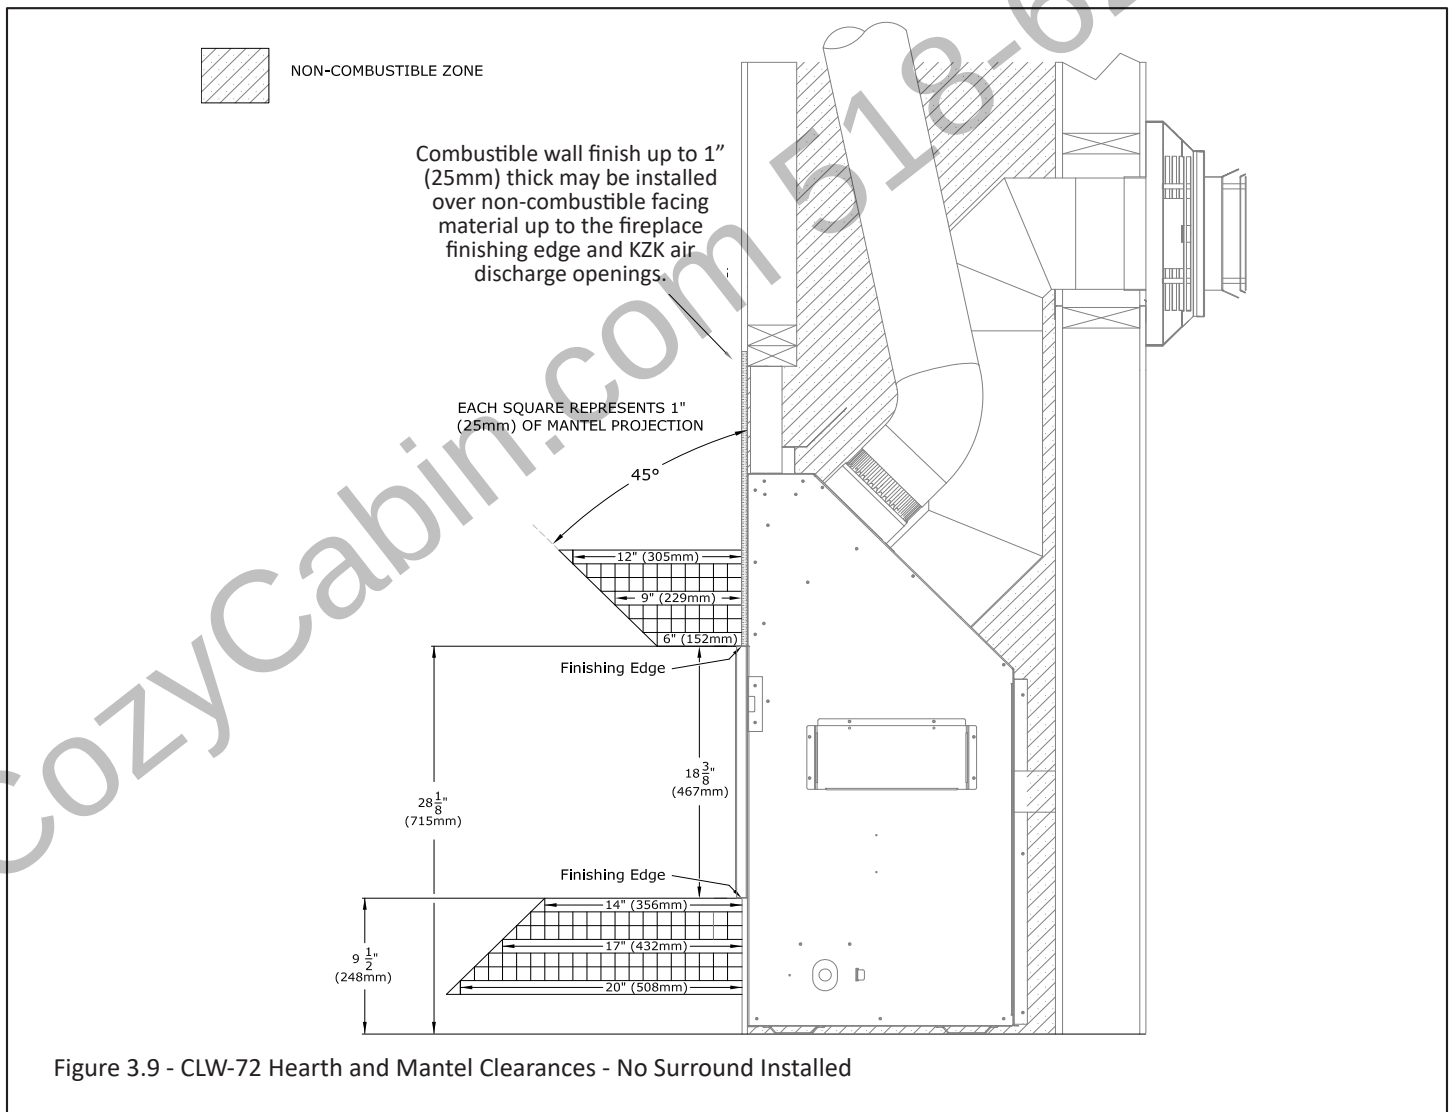

Figure 3.9 - CLW-72 Hearth and Mantel Clearances - No Surround Installed
- Combustible Mantel Projections (no surround): As referenced in Figure 3.9, the 6" (152mm) mantel can start flush with the top finishing edge. Mantel projections can increase 1" (25mm) of depth for every 1" (25mm) of height starting at the 6" (152mm) mantel.